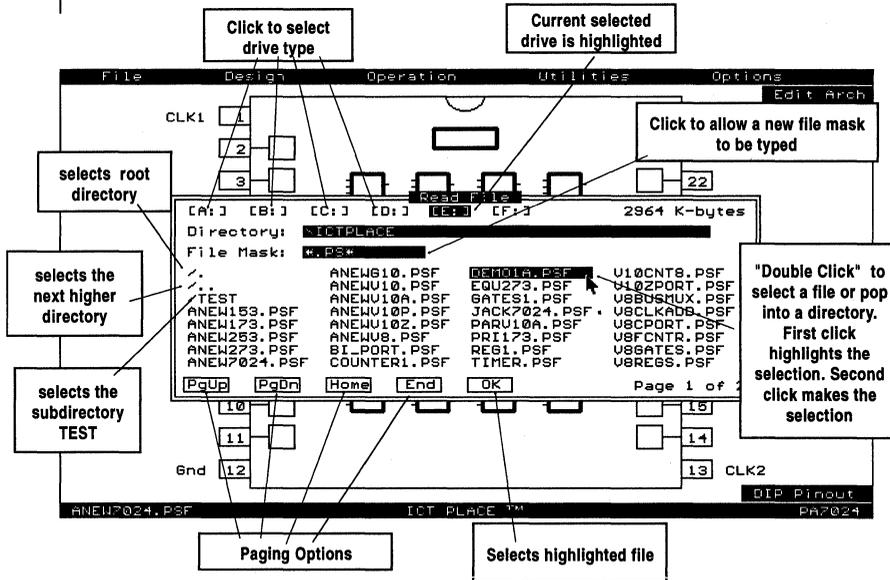

Figure 10-2, "Read" file selection screen
When selected, the File selection window will appear (Figure 10-2):
- SaveAs Allows a new file to be saved to the current directory and disk. Click an existing file to over-write or click [New] selector to enter a new file name (the "SaveAs" file selection screen is similar to that of the "Read" screen in Figure 10-2 with the exception of the [New] function).